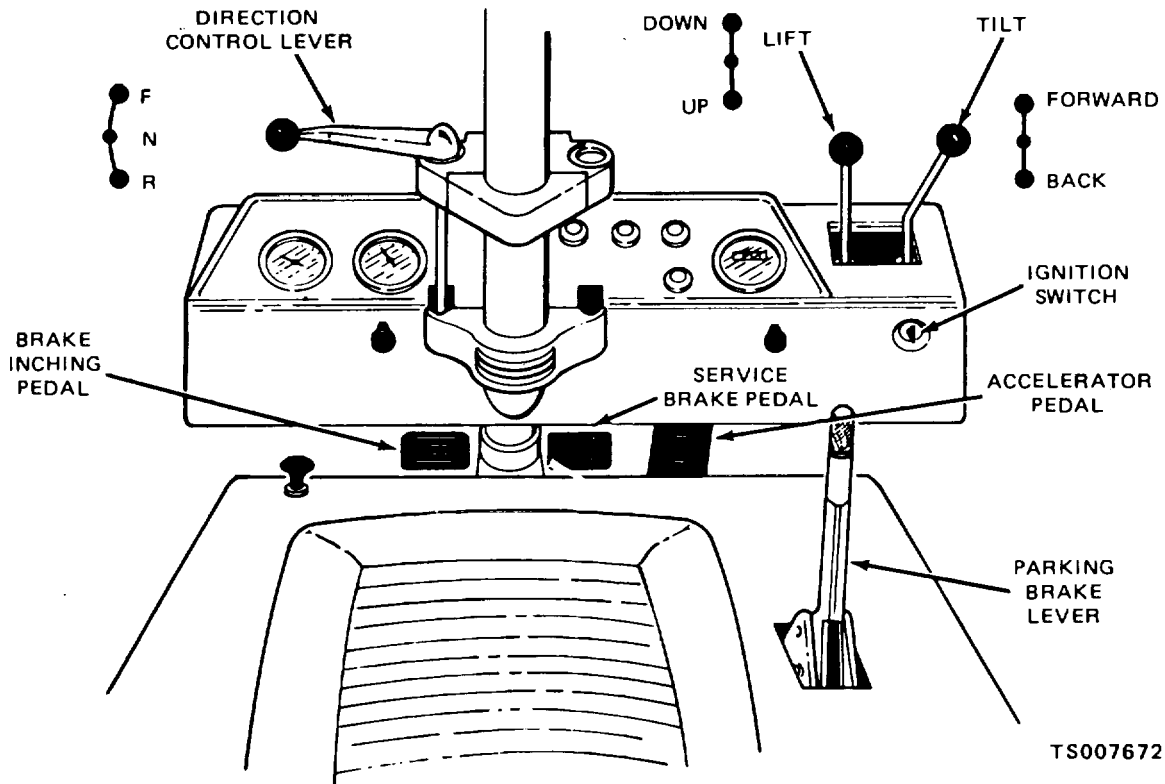

Figure 2-2. Operation Controls and Instruments
a. Refer to figure 2-2 and to the following procedures for stopping the truck.
- (1) If truck is in motion, remove foot from accelerator and apply gradual pressure to brake pedal to stop truck.
- (2) Apply parking brake by pulling up lever.
- (3) Shift direction shift lever to N (neutral) position.
- (4) Operate load tilt control lever to bring upright to vertical position.
(5) Operate load lift control lever forward to lower forks to ground.
(6) Turn starter and ignition to OFF position.
a. Start the engine (para 2-2). Accelerate the engine slightly and move the lift control lever (fig. 2-2) up and raise the forks to normal traveling position (approximately 8 to 10 inches above the working surface).
a. Approach the load squarely and halt the truck. Move the tilt control lever (fig. 2-2) forward and bring the mast assembly to the vertical position. Raise or lower the forks to the proper height to pick up the load.
d. Move the direction lever (fig. 2-2) to N (neutral).
(1) Carefully drive up to the position at which the load is to be deposited. Depress the braking and inching pedal (fig. 2-2) to halt the truck.
(2) Maintain brake pressure and move the direction shift lever (fig. 2-2) to N (neutral) position.
(3) Move the tilt control lever forward and bring the mast assembly to the vertical position.
(4) Move the lift control lever forward and carefully lower the load to the ground. Continue to lower the forks until they can be easily withdrawn from the load.
(5) Place the direction shift lever in R (reverse) position. Release the brake and slowly back the truck away from the deposited load.